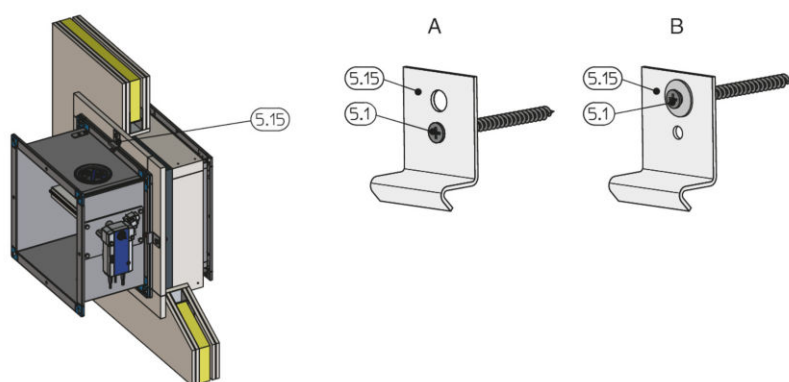

Fig. 94: Fastening the assembly to the metal studs
2. ▶ Attach the fire damper with brackets and dry wall screws to the metal support structure, see Fig. 94.